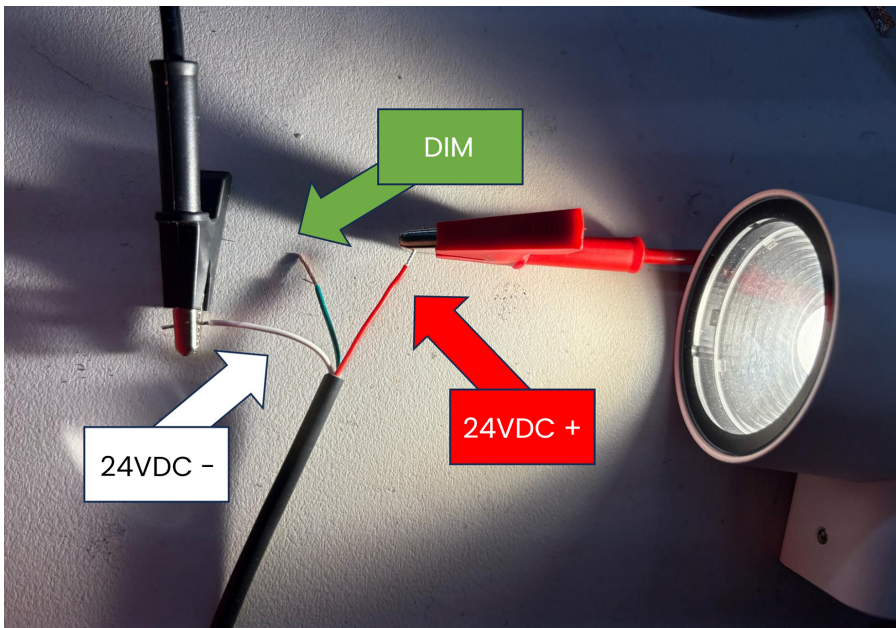

FIG. 1
- 3-wire Aqualux products come with three color-coded wires (Fig. 1):